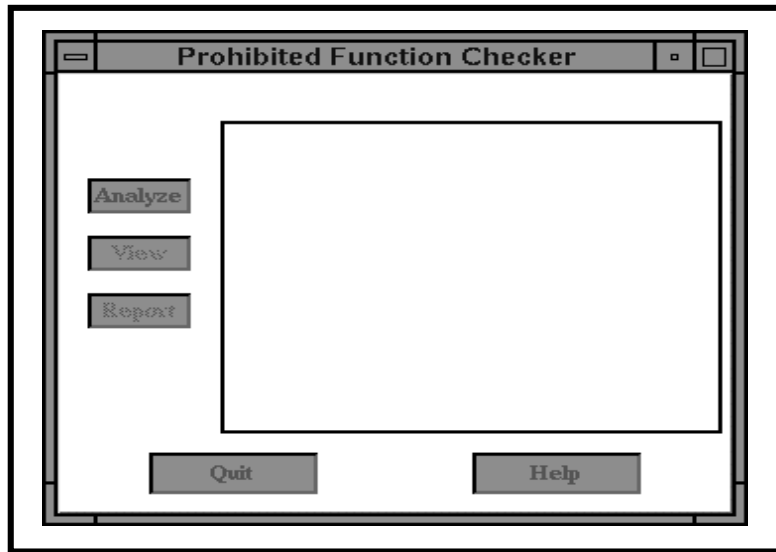

Figure 5. Prohibited Function Checker
- See Figure 5 for a screen snapshot of this step.
The use of certain functions in the PGE is prohibited. The **Prohibited Function Checker** (Figure 5) is used to check C, FORTRAN 77 and FORTRAN 90, language source files for the occurrence of functions that are prohibited in the ECS DAAC production environment.